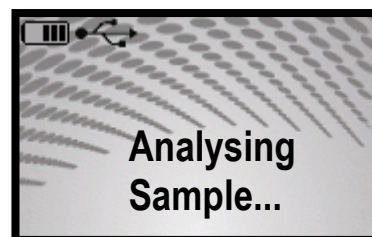

Figure 13 - Analysing Sample message
- After a valid breath sample is taken, the Analysing Sample message is displayed until the device calculates the BrAC reading. This will normally take a few seconds. In cold climate conditions it may take longer to display the BrAC reading (refer Figure 13).
- The device is set to take three pump samples. During these three pumps the operator must hold the device steady and at the same distance from the subject. The device will give three sample pump clicks, followed by a long beep sound. Analysing Sample will then be displayed (refer Figure 13).